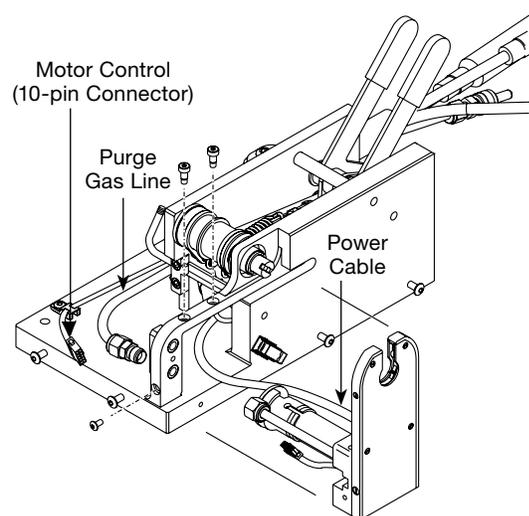

Figure 44 Removing the Weld Head Assembly
17. Pull the weld head assembly straight out from the base to access the power cable. See Figure 44